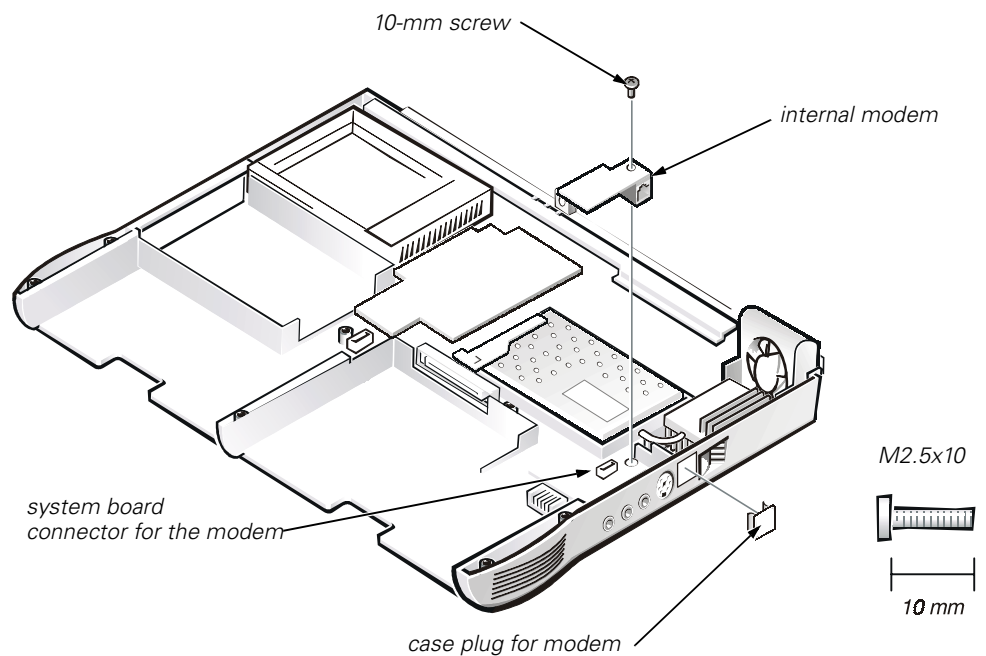

Figure 21. Modem Assembly
The modem assembly is optional. The modem (if present) must be removed before the main system board can be removed (see Figure 21).
5. Remove the 10-mm screw and washer securing the modem assembly (see Figure 21).
3. Replace the internal modem 10-mm screw and washer (see Figure 21).